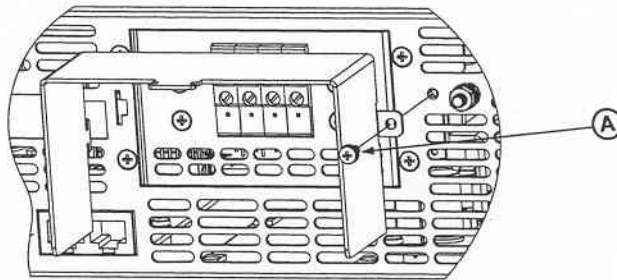

Fig.3-9: Shield assembly
4. Loosen the two chassis screws marked "A" halfway as shown in Fig.3-9.